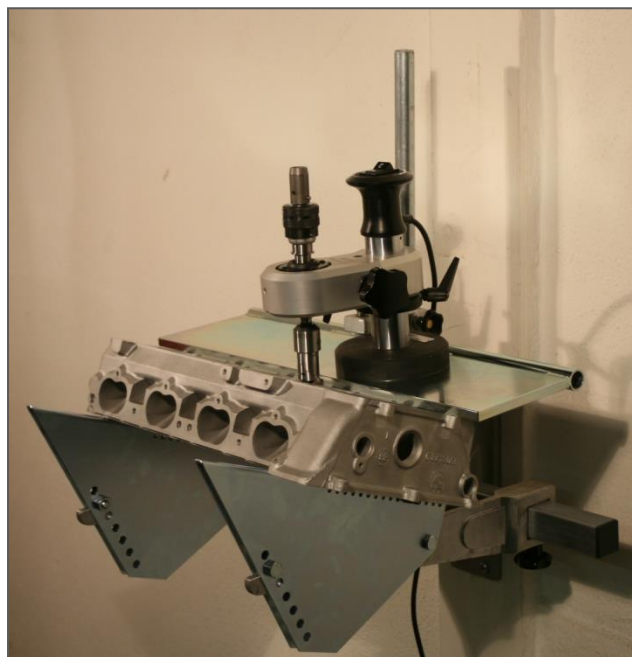

Fig. 4
If the cylinderhead includes inclined valve seats, like Fig. 4, the cylinderhead support must be equipped with the inclination plates (SH).
The plates can be mounted easily and accommodate a safe and solid base for the valve seat refacing with the VGX-21. Fig. 4